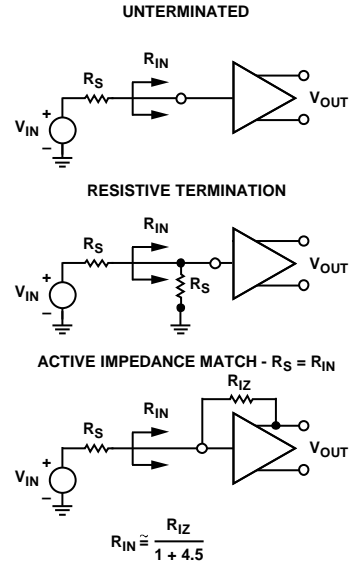
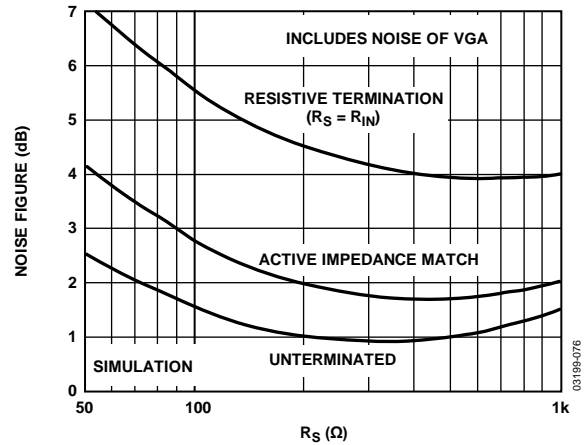
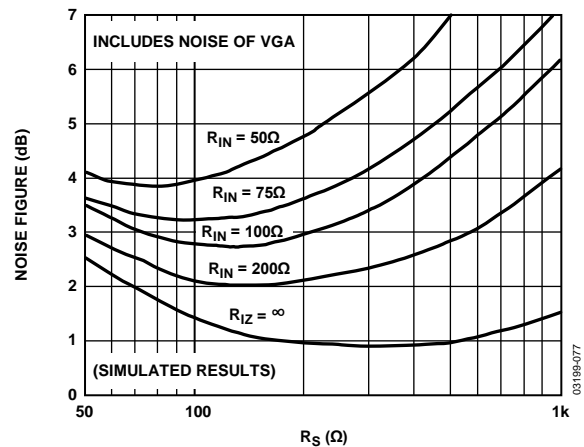

Figure 75. Input Configurations
Figure 76. Noise Figure vs.  $R_S$  for Resistive, Active Match, and Unterminated Inputs
Figure 77. Noise Figure vs.  $R_S$  for Various Fixed Values of  $R_{IN}$ , Actively Matched
The input-referred voltage noise sets an important limit on system performance. The short-circuit input voltage noise of the LNA is 0.74 nV/√Hz or 0.82 nV/√Hz (at maximum gain), including the VGA noise. The open circuit, current noise is 2.5 pA/√Hz. These measurements, taken without a feedback resistor, provide the basis for calculating the input noise and noise figure performance of the configurations in Figure 75. Figure 76 and Figure 77 show simulations extracted from these results and the 4.1 dB noise figure (NF) measurement with the input actively matched to a 50 Ω source. Unterminated ( $R_{IZ} = \infty$ ) operation exhibits the lowest equivalent input noise and noise figure. Figure 76 shows the noise figure vs. source resistance, rising at low  $R_S$ , where the LNA voltage noise is large compared to the source noise, and again at high  $R_S$  due to current noise. The VGA input-referred voltage noise of 2.7 nV/√Hz is included in all of the curves.